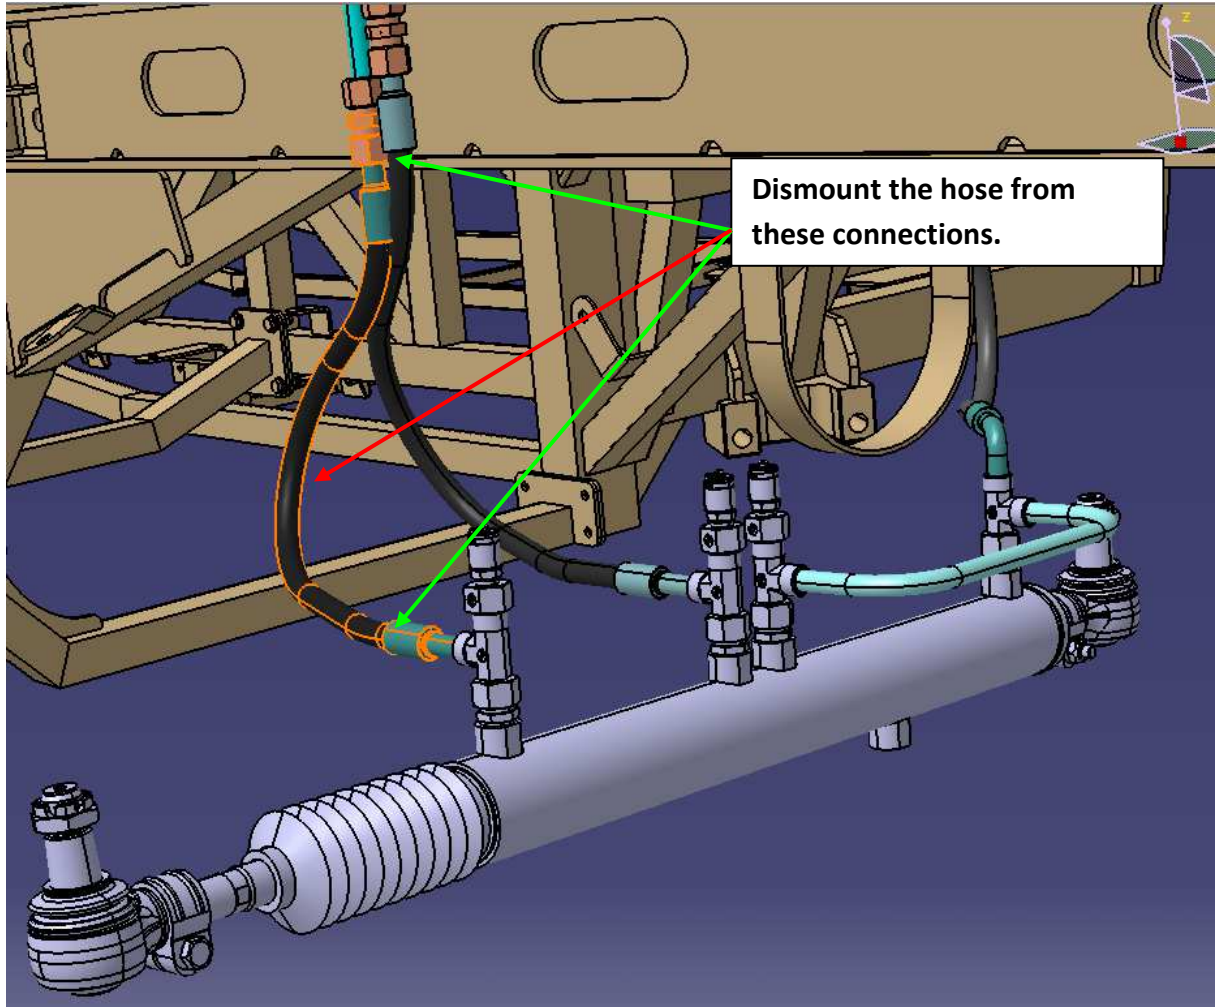

Figure-5
5. Dismount the 9630-05Y hose and 61102-90000-25 straight union then mount the 9630-33Y hose as replacement of these parts.(see the Figure-5)